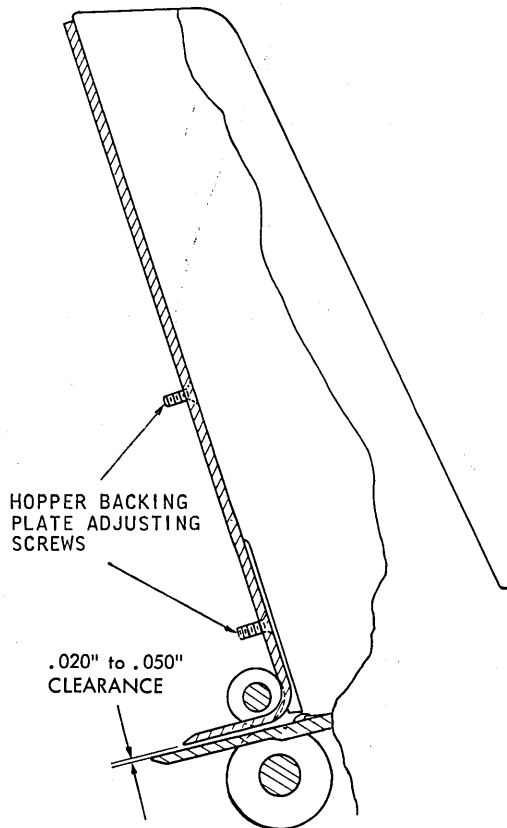

Figure 2-12. Hopper Back Plate Clearance
4. Adjust the hopper back plate card guide fingers  $.020''$  to  $.050''$  clearance to the hopper bed plate fingers (Figure 2-12).